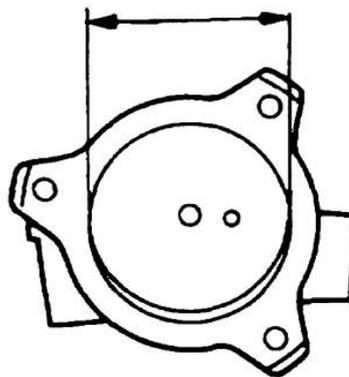

Figure 324 Measuring the Vacuum Pump Housing
- m. Measure the inside diameter of the pump housing and check that the dimension is between 57.0 to 57.1 mm (2.244 to 2.248 in). Replace the pump assembly if it is not within tolerance (Figure 324).